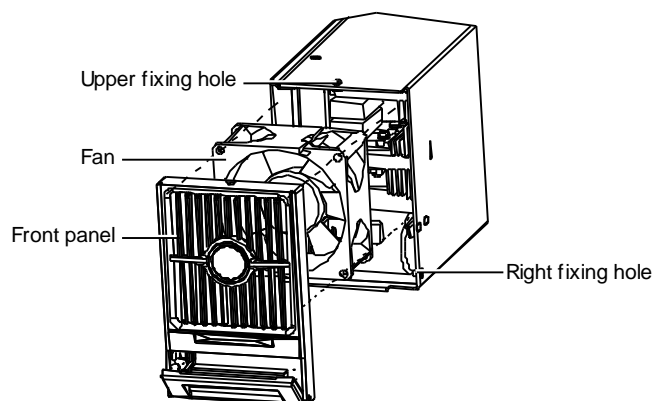

Figure 7-2 Disassembling the front panel
1. Use a cross screwdriver to remove the three screws from the fixing holes and pull out the front panel, as shown in Figure 7-2.